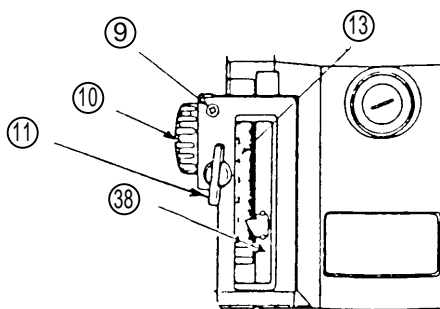
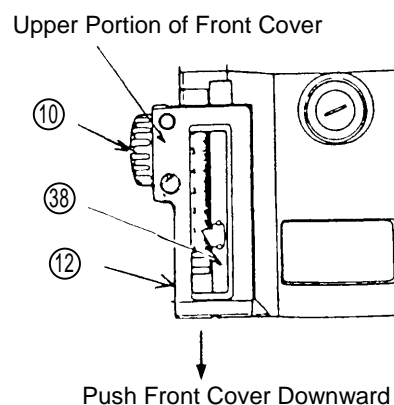

Fig. 14
Fig. 15
(7) Remove the Knob Pinion (10): (Figs. 14 and 15)
- (a) To remove the Knob Pinion (10), it is first necessary to remove the End Bracket (41) and Armature (18) from the Housing Ass'y (32) as described in Paragraph (4), above.
- (b) Loosen and remove the D4 x 16 Tapping Screw (9) and the M6 x 27 wing Bolt (11).
- (c) Grasp the upper portion of the Front Cover (12), and pull it slightly toward you. In this position, push the Front Cover (12) downward in the direction indicated by the arrow mark in Fig. 15 to disconnect and remove the interlocking claw of the Front Cover (12) from the Housing Ass'y (32).
- (d) Remove the Scale (13) and Stopper Pole (38). Then, remove the Knob Pinion (10) from the Housing Ass'y (32).
- (e) Remove the Scale Stopper (14).